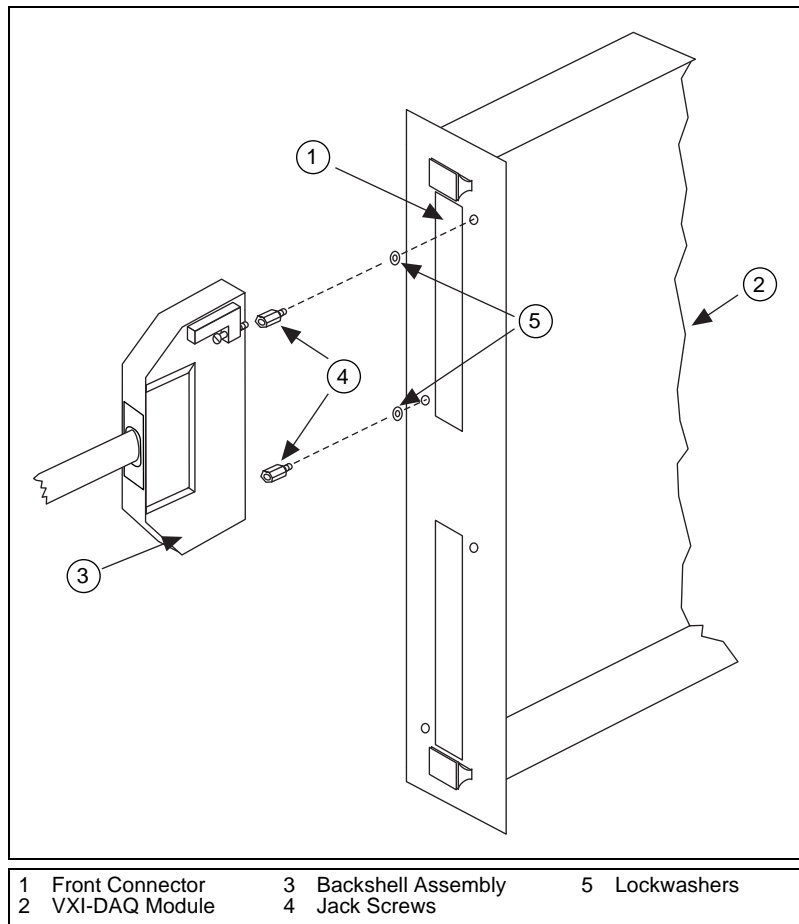

Figure 5. VXI-DAQ Installation
After completing all signal connections and assembling the backshell, you are ready to connect your backshell assembly to your VXI-DAQ module. Refer to Figure 5 as you perform the following steps.
2. Install the jack screws and lockwashers as shown in Figure 5.
The VXI-DAQ installation is now complete. Figure 5 shows the VXI-DAQ installation.